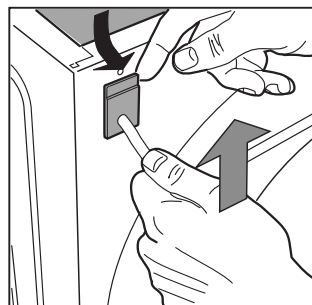

Fig. 5
- 4. Remove the upper part of the cable slightly from the back panel of the appliance, pull the power supply cable upwards and take it out [fig. 5].**